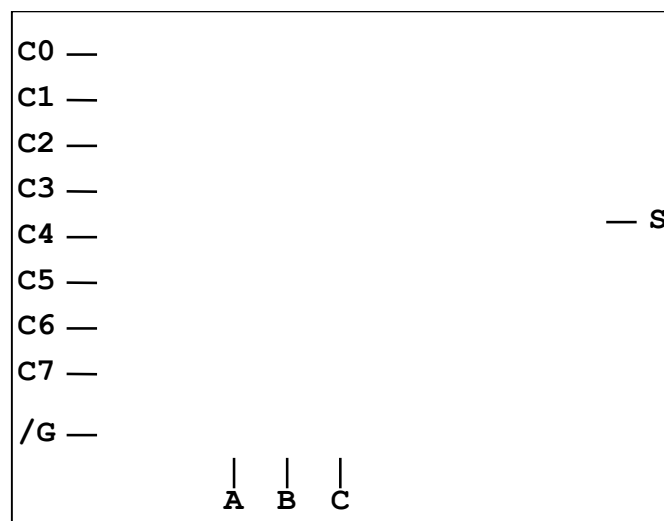

Figure 7. Implemented circuit
- a) Into one of the trainer's sockets a 74153 IC must be plugged. Using the 74153 IC plus the necessary logical gates a 8 to 1 multiplexor with low-level active enable input must be designed. Draw your design in Figure 7.